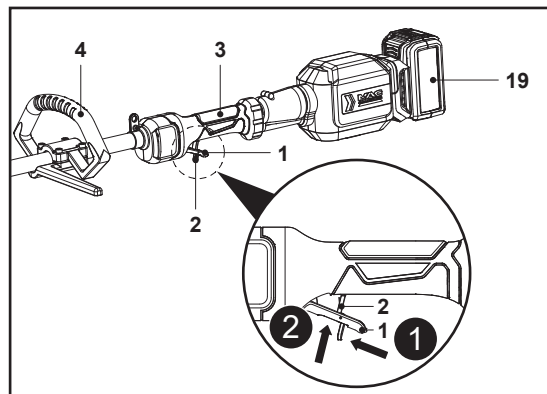

Fig. 17
1. Ensure that the battery pack (19) is assembled on the battery docking port (8).
2. Ensure that the trimmer head (18) or the cutter blade (21) do not touch any objects.
3. Hold the product with one hand on the main handle (3) and the other hand on the auxiliary handle (4). Do not start the product while handling it with one hand.
4. Push forward the lock-off lever (2) and hold it in position (Fig. 17, step 1).
5. Squeeze the on/off switch (1) to switch the product on (Fig. 17, step 2). Release the lock-off lever (2) afterwards.
6. Release the on/off switch (1) to switch the product off.